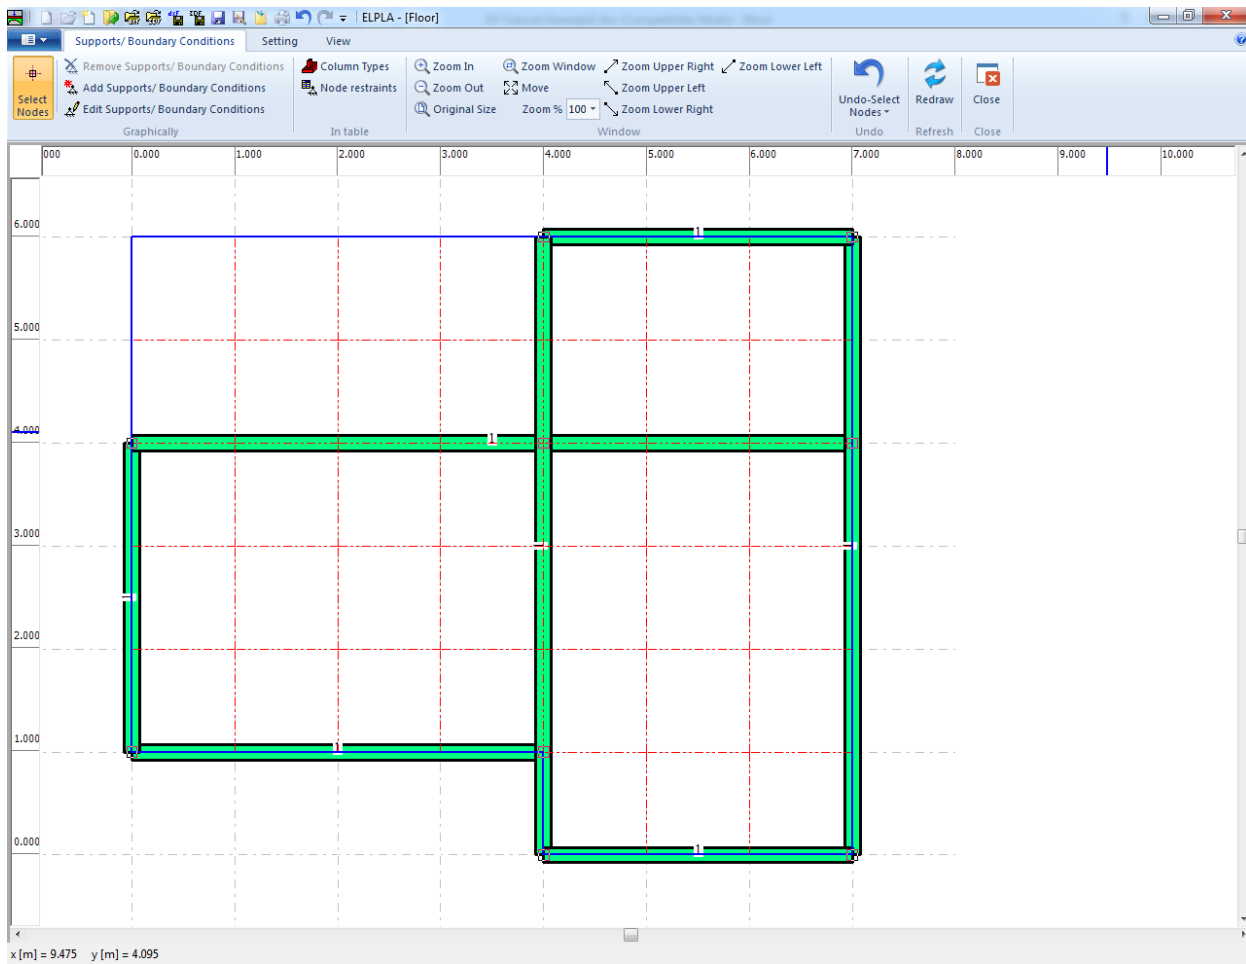

Figure 2.23 Selection of nodes that have supports
- Choose "Save" command from "File" menu in Figure 2.23 to save the data of supports
- Choose "Close" command from "File" menu in Figure 2.23 to close the "Supports/ Boundary Conditions" Window and return to ELPLA main window.